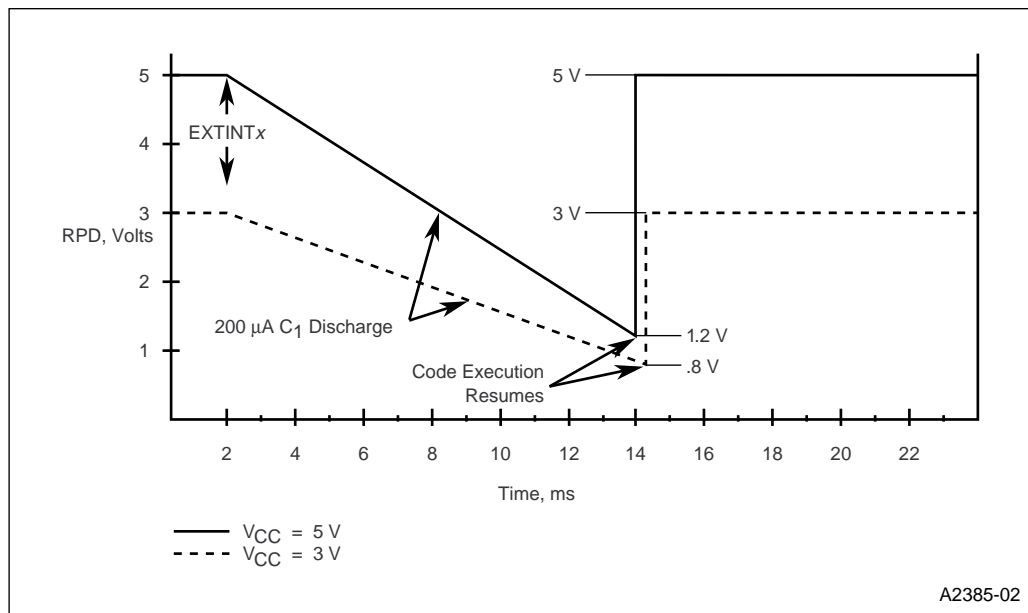

Figure 12-5. Typical Voltage on the RPD Pin While Exiting Powerdown
At this time, a Schmitt-triggered detection circuit prompted by the switching voltage levels strongly drives a logic one, quickly pulling the RPD pin back up to V_{CC} (see recovery time in Figure 12-5). The time constant (RC) follows an exponential charging curve. However, since there is no external resistor on the RPD pin, the time constant goes to zero and the recovery time is instantaneous.